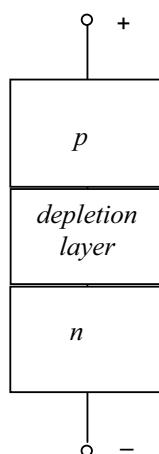

Fig. 1.5
**Biassing.** Fig. 1.5 shows a dc source (*battery*) across a *pn* junction. The negative source terminal is connected to the *n*-type material, and the positive terminal is connected to the *p*-type material. Applying an external voltage to overcome the barrier potential is called the *forward bias*. If the applied voltage is greater than the barrier potential, the current flows easily across the junction. After leaving the negative source terminal, an electron enters the lower end of the crystal. It travels through the *n* region as a free electron. At the junction, it recombines with a hole, becomes a valence electron, and travels through the *p* region. After leaving the upper end of the crystal, it flows into the positive source terminal.